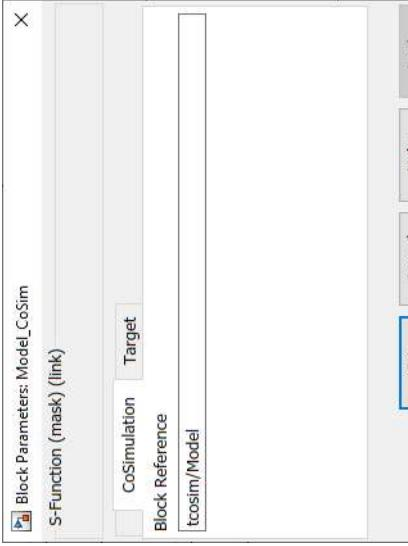

Figure 14-5 Example: changing the path to the referenced model
- Enter the new path in the "Block Reference" input field (see Figure 14-5).